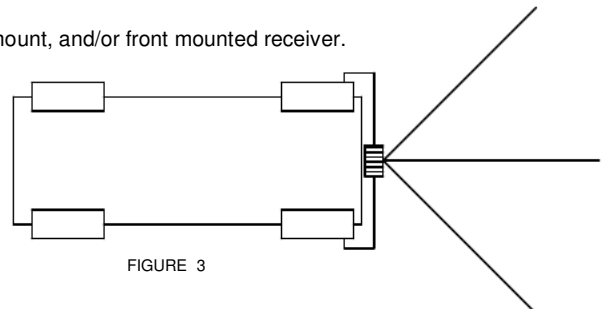

FIGURE 3
- 45° angle left or right from straight ahead (See Figure 3).